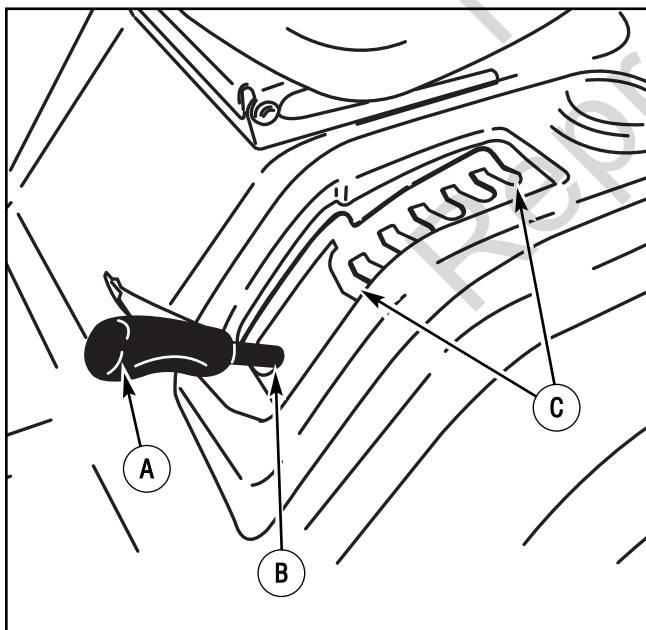

Figure 35: Lever adjustment
- Move the **deck lift lever** to the LEVEL ADJUSTMENT position (Figure 35).